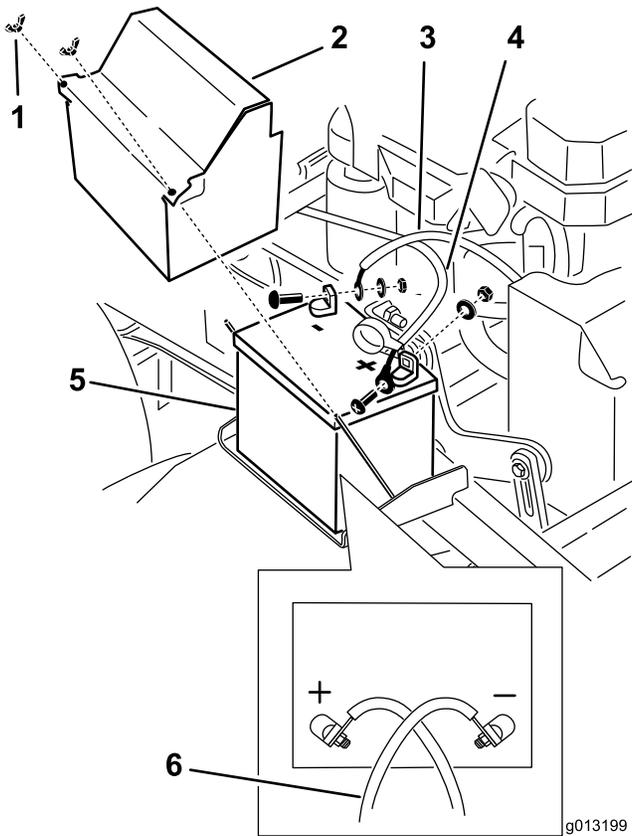

Figure 53
3. Disconnect the negative battery cable from the negative (-) battery terminal (Figure 53).
4. Slide the red terminal boot off the positive (red) battery terminal. Then remove the positive (red) battery cable (Figure 53).
5. Remove the battery hold down plate (Figure 53) and remove the battery.
1. Place the battery onto the machine (Figure 53).
3. First, install the positive (red) battery cable to positive (+) battery terminal with a nut, washer and bolt (Figure 53). Slide the rubber cover over the post.
4. Then install the negative battery cable and ground wire to the negative (-) battery terminal with a nut, washer and bolt (Figure 53).
Note: The battery cables will crossover each other when they are correctly installed (Figure 53).